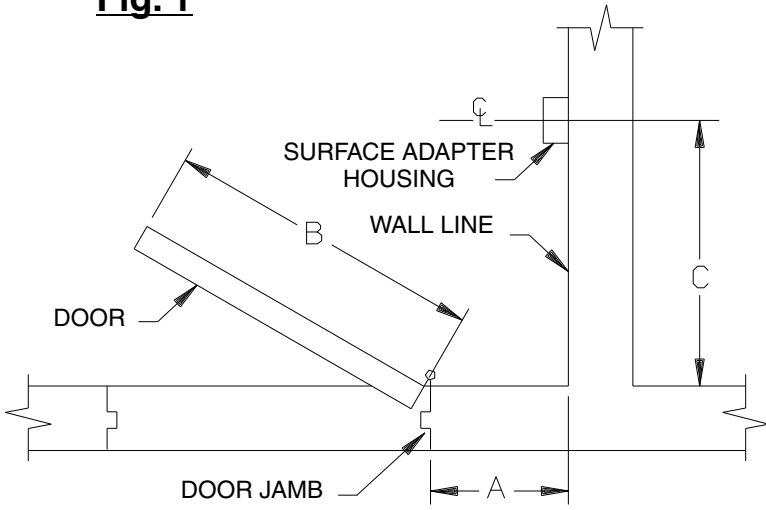

Fig. 1
- See Fig. 1. Measure dimensions A and B. Find the intersection of those two dimensions in Table 1. The intersection is dimension C, the centerline of the surface mount box location. (For 180° installations, take B dimension and subtract 5 5/8" to find the centerline of junction box. Note: Optional extensions maybe needed.)